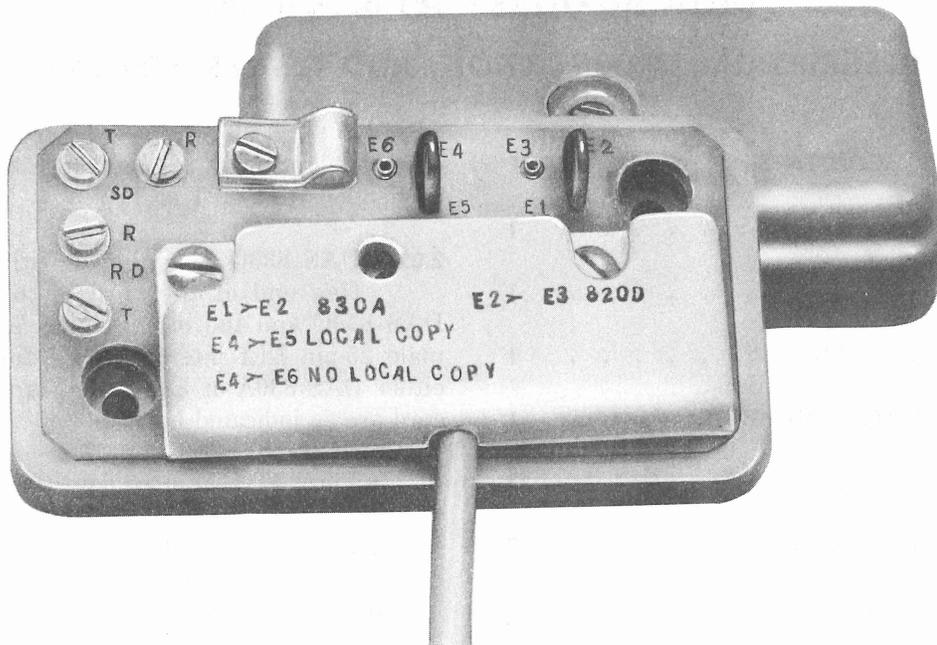

Fig. 1—Data Auxiliary Set 830C
1.01 Data auxiliary set (DAS) 830C (Fig. 1) interconnects a DAS 830A or 820D to a customer-provided terminal (CPT) or Bell System-provided teletypewriter (TTY).